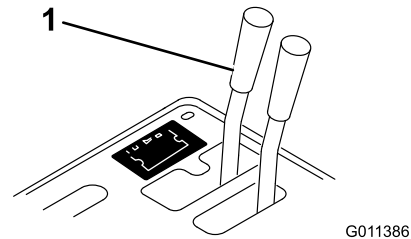
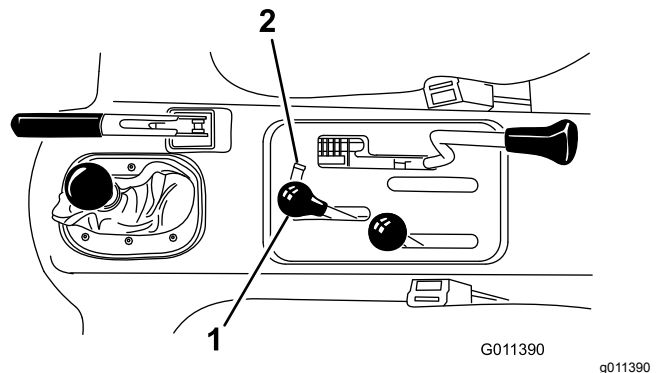

Figure 14
Figure 15
- On vehicles with serial numbers prior to 239999999, move the remote hydraulic valve handle (Figure 14) to the float position and on vehicles with serial numbers 240000001 and up, move the hydraulic lift lever (Figure 15) back and forth to remove the system pressure and ease the disconnection of the quick couplers.